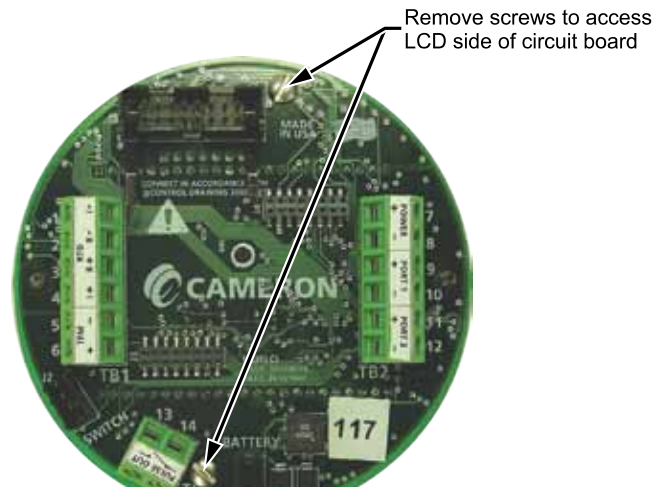

Figure C.13—Disassembly of main board/keypad assembly
12. Remove the two #4-40 × 5/16" screws fastening the main board to the keypad (Figure C.13).